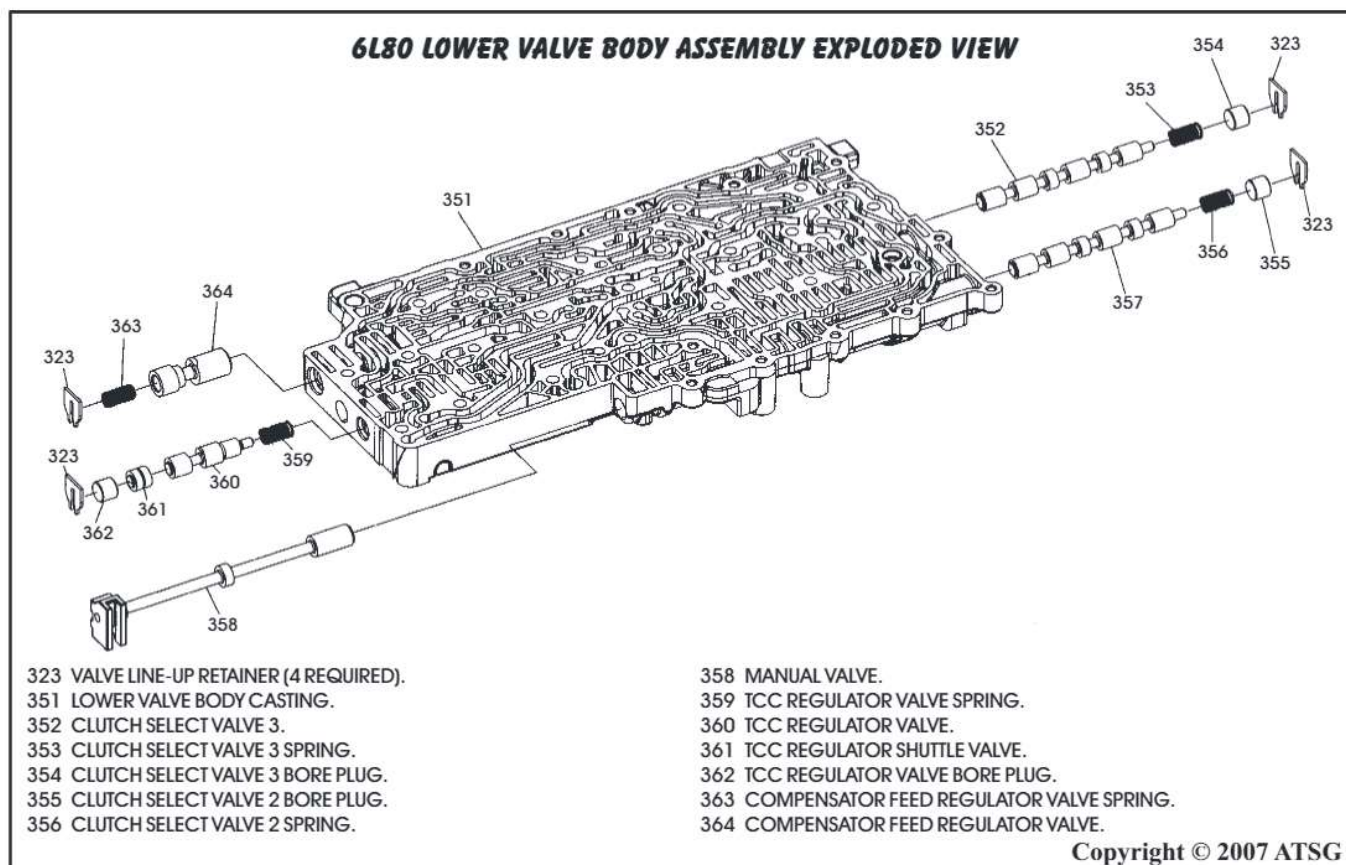

Figure 140
8. Disassemble the lower valve body assembly using Figure 140 as a guide.
12. Install each valve train back into their bores **exactly**, as shown in Figure 140, lubricating them with Dexron VI® as they are installed.